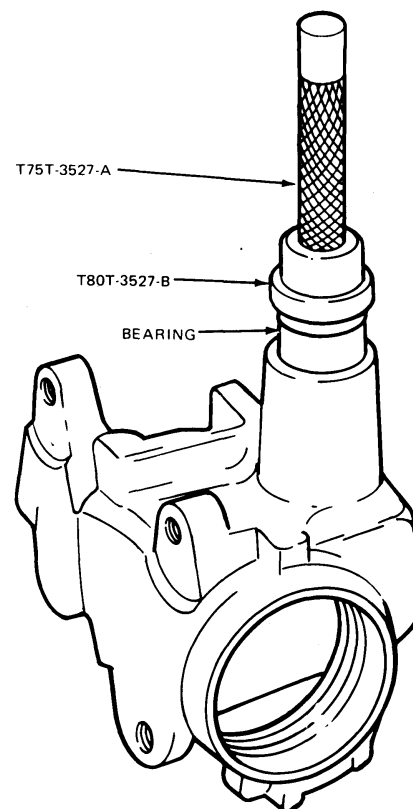

FIG. 11 Installing Sector Shaft Needle Bearing
2. Press the new needle bearing into position using Tools T75T-3527-A and T80T-3527-B (Fig. 11). Make certain that the smaller diameter of Tool